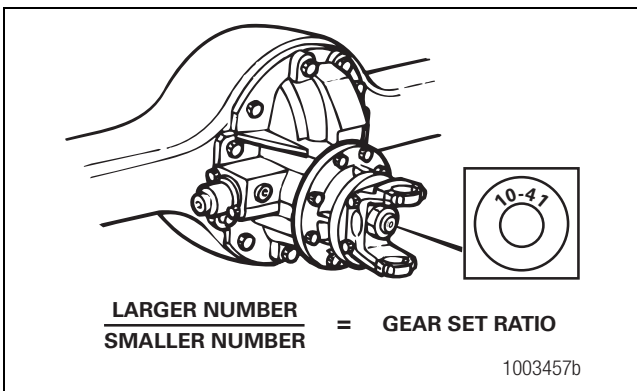

Figure 4.20
2. Identify and record the gear set teeth numbers stamped on the end of the rear axle drive pinion. Figure 4.20.
3. Calculate the hypoid gear set ratio by dividing the larger number by the smaller number. Figure 4.20.